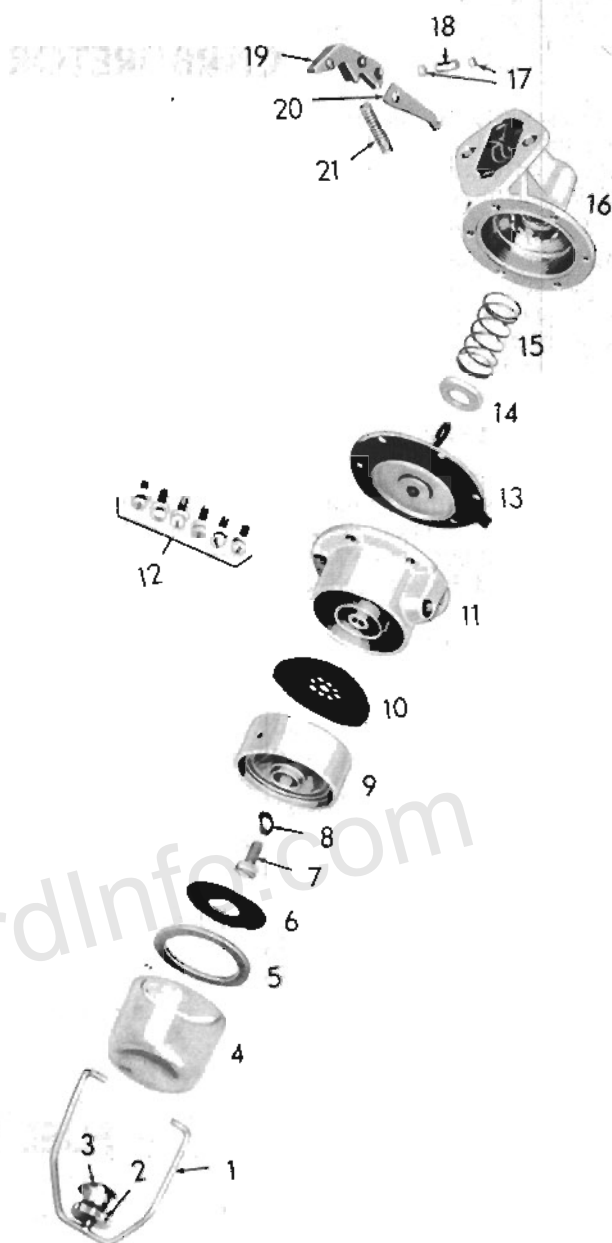
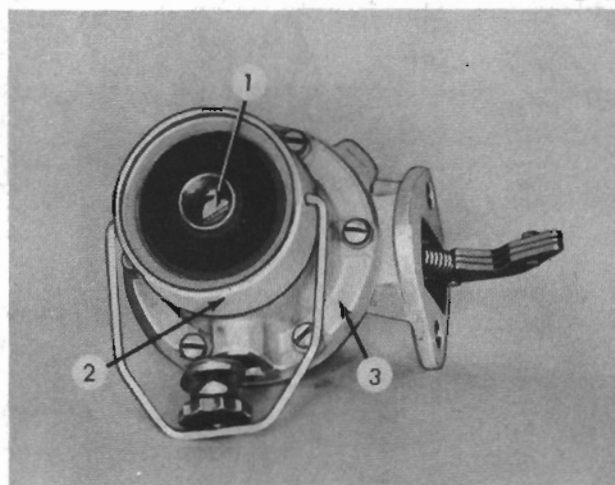

FIG. 6
FIG. 7
Loosen the bail nut (2, Fig. 6) at the bottom of the filter bowl, turn the bail (1) to one side, and remove the filter bowl (4) and bowl seat (3). Remove the gasket (5) and filter screen (6). Remove the screw (1, Fig. 7) and washer from the inlet body (2), thereby separating the inlet body from the valve body (3). Remove the gasket (10, Fig. 6). Remove six screws (12) and separate the valve body from the pump body (16). Remove the rocker arm pin (18).
Assemble the spring (15, Fig. 6) and seat (14) into the pump body (16). Insert the diaphragm (13) into the pump body. Assemble the rocker arm (19) and rocker arm link (20) into the pump body and temporarily retain these parts in position with a pin punch or dummy pin of approximately the same diameter as the rocker arm pin. Install the rocker arm pin (18) so that the pin is centered in the pump body, then install the new plug seals. Install the rocker arm